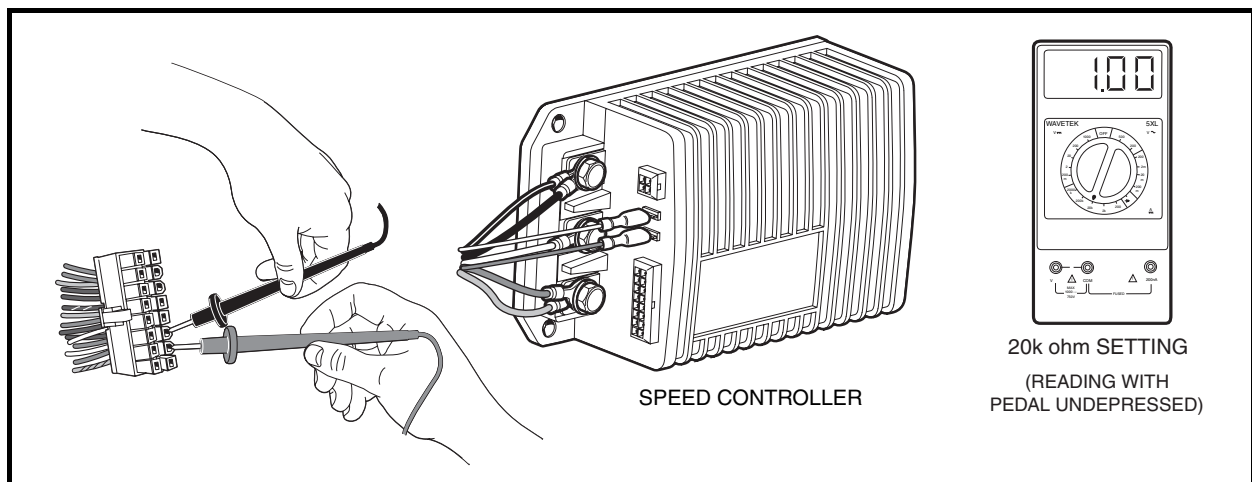

Figure 18-9 Pins 1, 2, and 3 Test
4. Set a multimeter to 20k ohms. Insert the red (+) probe of the multimeter into pin 2 (yellow wire) of the 16-pin connector. **See following CAUTION.** Insert the black (–) probe into pin 3 (purple/white wire) of the 16-pin connector (**Figure 18-9, Page 18-20**).